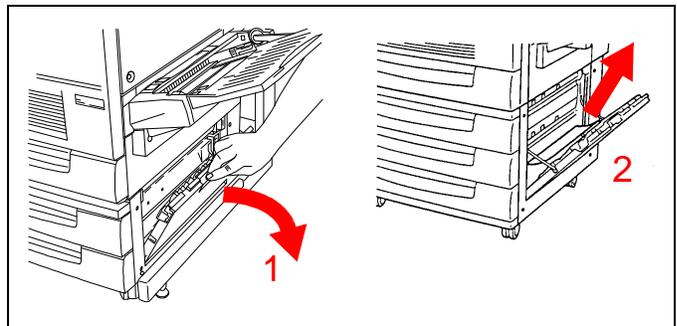

Figure 20
1. See Figure 20. Open the right cover of the two tray module.